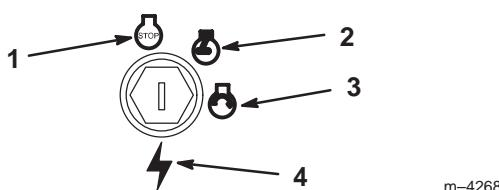

Figure 7
6. Turn the ignition key to Start (Fig. 7) to energize the starter. When the engine starts, release the key.
3. Turn the ignition key to Off (Fig. 7).